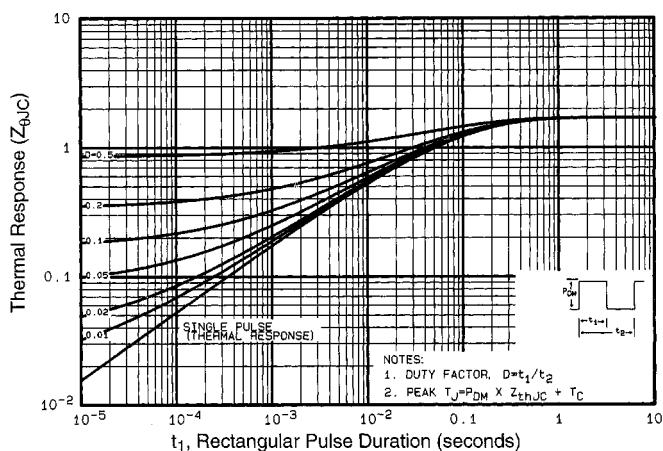

Fig 11. Maximum Effective Transient Thermal Impedance, Junction-to-Case
① Repetitive rating; pulse width limited by max. junction temperature (See Figure 11)
③ $I_{SD}\leq 14\text{A}$, $dI/dt\leq 140\text{A}/\mu\text{s}$, $V_{DD}\leq V_{(\text{BR})DSS}$, $T_J\leq 175^\circ\text{C}$
② $V_{DD}=25\text{V}$, starting $T_J=25^\circ\text{C}$, $L=528\mu\text{H}$